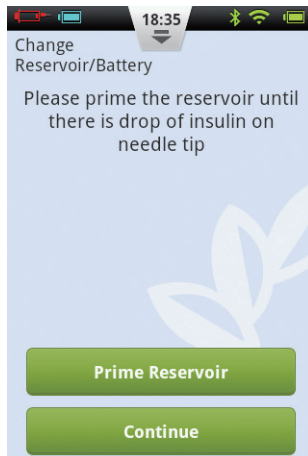

图81
**3** Holding the pump in the orientation shown in Figure 82, press the Prime Reservoir button (Figure 81). The plunger will begin to move slowly. Continue to press the button until you see a drop of insulin on the needle tip (Figure 81). Press Continue to go to the next step.